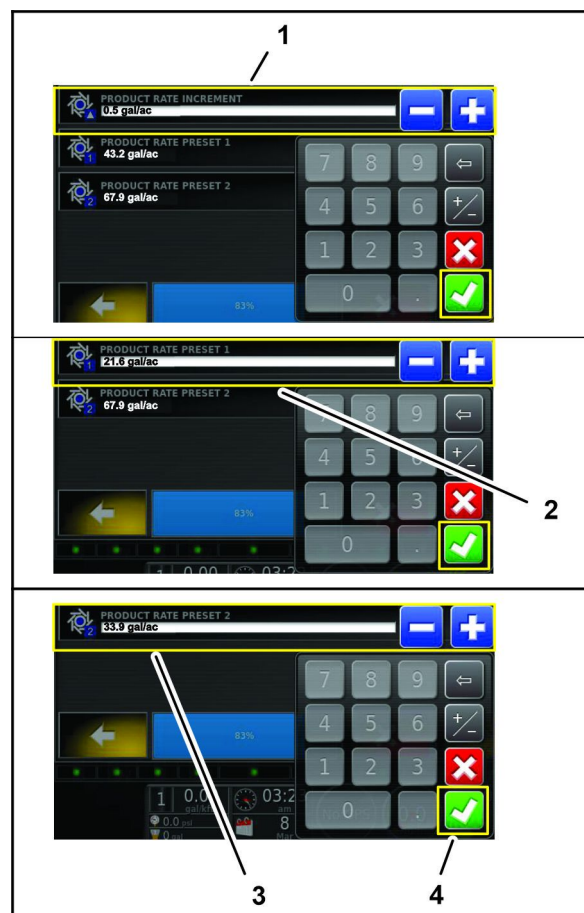

Figure 120
10. Use the on-screen keypad to type a rate by which you raise or lower application preset rates 1 and 2, and press the confirm icon (Figure 120).
12. Use the on-screen keypad to type the application rate for application preset rate 1, and press the confirm icon (Figure 120).
14. Use the on-screen keypad to type the application rate for application preset rate 2, and press the confirm icon (Figure 120).